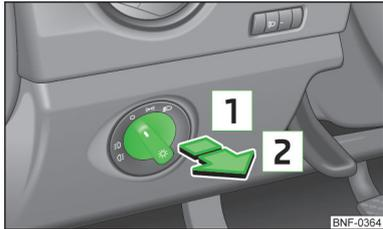

Fig. 37
- > Turn the light switch » Fig. 37 to position, ⤵ or ⤴.
- > Turn the light switch » Fig. 37 on page 50 to position, ⤵ or ⤴.
- Turn the light switch » Fig. 37 on page 50 to position **0** and lock the vehicle.